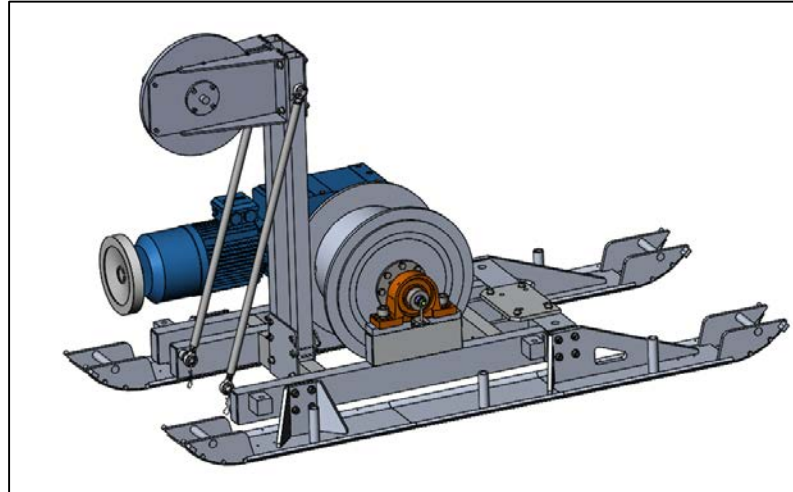

Figure 8: BID Winch Base with Lifting Sheave.
10.1.1 The Winch Assembly (Figure 8) is comprised of the base, skis and lifting sheave.